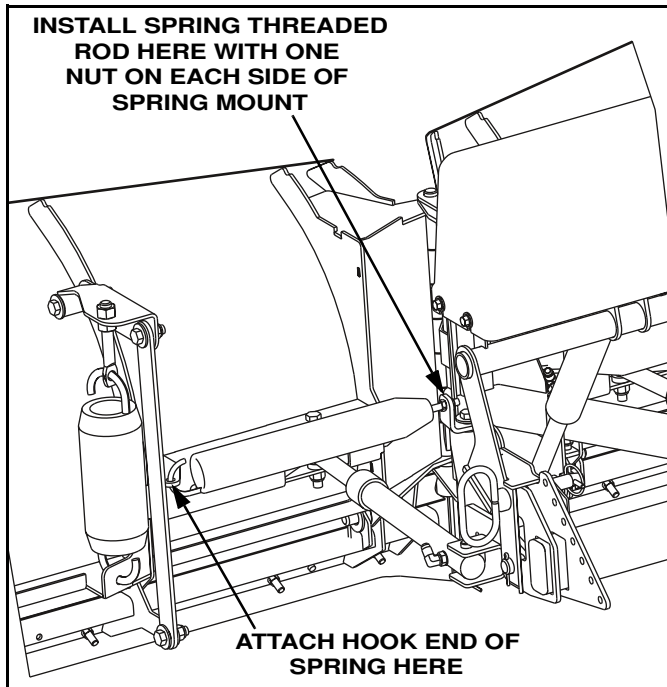

Figure 1-10
20. Hook one end of return spring on the drivers side wing spring bracket. (See Fig 1-10)
21. Remove one 3/8" nut from the threaded rod on the other end of the return spring. Insert threaded rod into the A-frame/tower spring bracket and replace 3/8" nut. (See Figure 1-10)